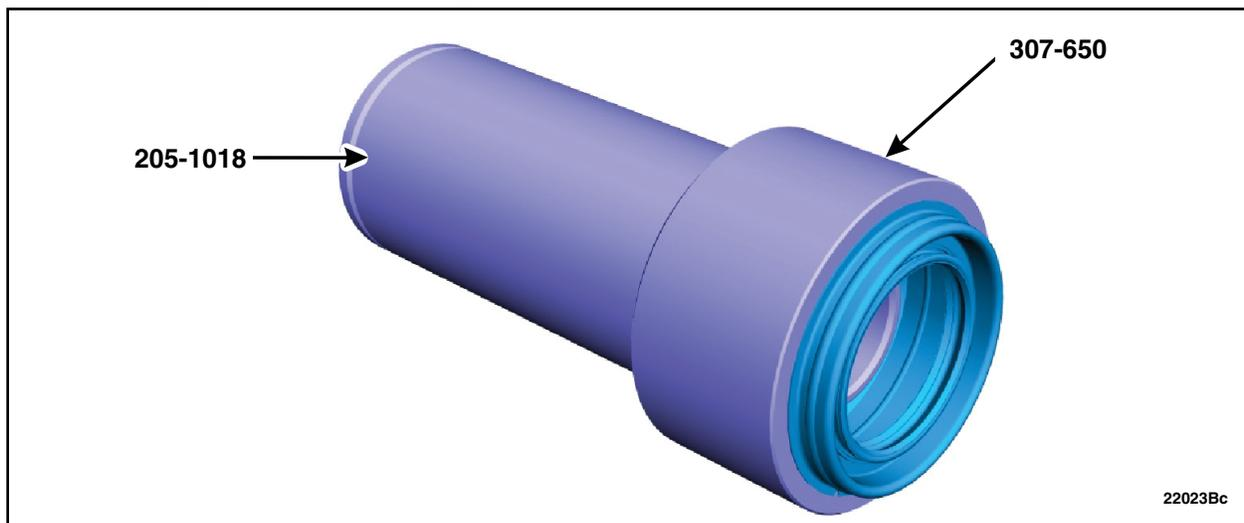

FIGURE 74
85. Position a *new* output shaft seal on the Special Service Tool: 205-1018 Installation Tube., 307-650 Installer, Output Shaft Seal. See Figure 74.